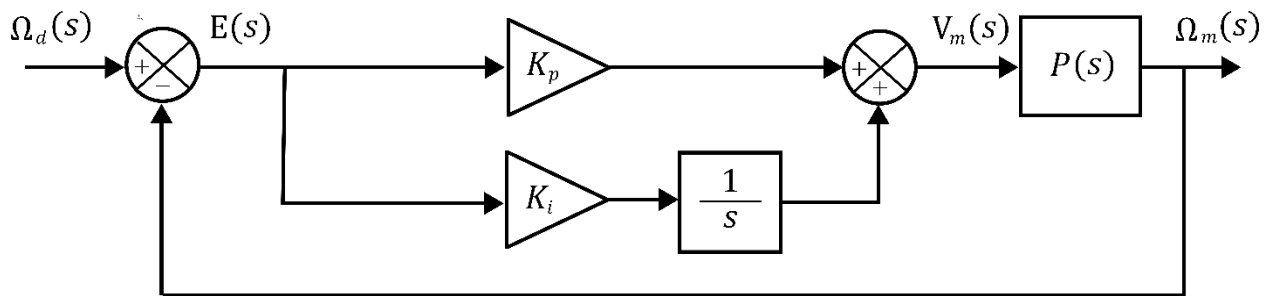

Fig. 2.4: Block diagram of PI control.
- D.13** By considering the computed gains, regulate the angular position of the QUBE-Servo 3 with a PI control ($K_p = K_p$ and $K_i = K_i$). Hence, the derivative of the error is now considered, Fig. 2.4